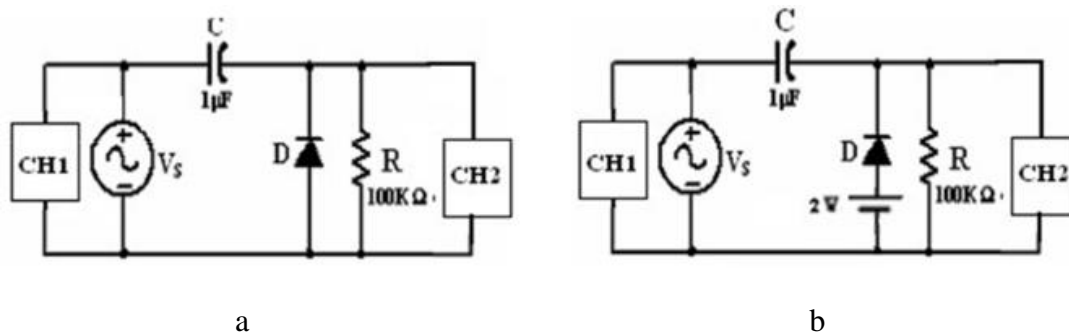

Figure 3.10 : Positive clamper circuits
- 1- Construct the circuit shown in Figure 3.10, where the supply  $V_s$  is sinusoidal signal with  $8V_{pp}$ ,  $100Hz$
**Positive clamper of figure 3.10 a**
**Positive clamper of figure 3.10 b**